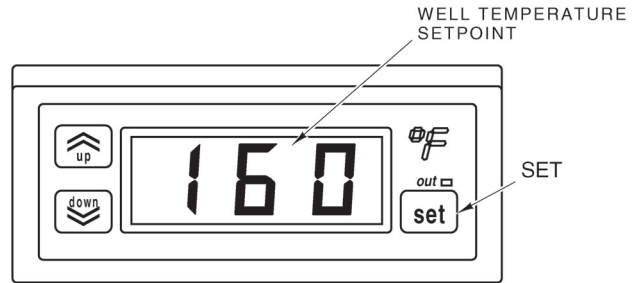

Fig. 6
## PROGRAMMING THE WELL TEMPERATURE CONTROLLER (Figs. 6, 7)
1. Press the Set key to display the well temperature set point (Fig. 6).